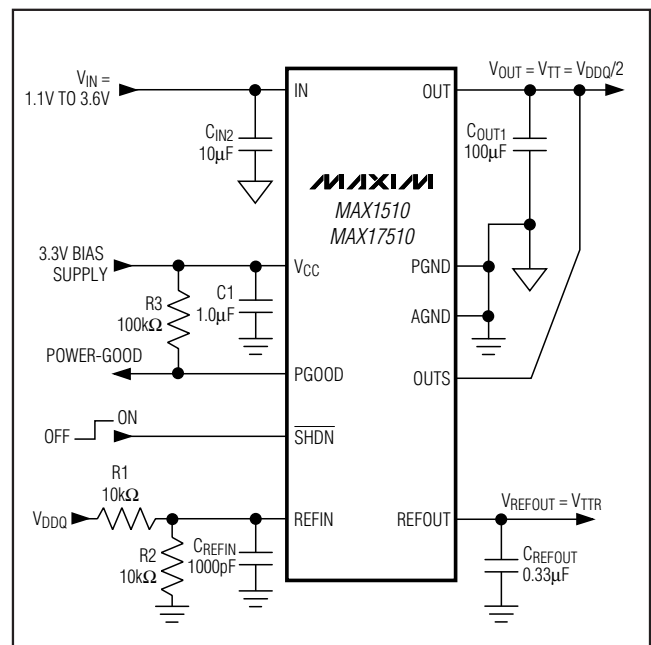

Figure 1. Standard Application Circuit
( $V_{IN} = 1.8V$ ,  $V_{CC} = 3.3V$ ,  $V_{REFIN} = V_{OUTS} = 1.25V$ ,  $\overline{SHDN} = V_{CC}$ , circuit of Figure 1,  $T_J = T_A = -40^\circ C$  to  $+85^\circ C$  for MAX1510ETB,  $T_J = T_A = -40^\circ C$  to  $+125^\circ C$  for MAX17510ATB, unless otherwise noted. Typical values are at  $T_A = +25^\circ C$ .) (Note 1)
(Circuit of Figure 1.  $T_A = +25^\circ\text{C}$ , unless otherwise noted.)
The MAX1510/MAX17510 are low-voltage, low-dropout DDR termination linear regulators with an external bias supply input and a buffered reference output (see Figures 1 and 2). VCC is powered by a 2.7V to 3.6V supply that is commonly available in laptop and desktop computers. The 3.3V bias supply drives the gate of the internal pass transistor, while a lower voltage input at the drain of the transistor (IN) is regulated to provide VOUT. By using separate bias and power inputs, the MAX1510/MAX17510 can drive an n-channel high-side MOSFET and use a lower input voltage to provide better efficiency.
The MAX1510/MAX17510 regulate OUTS to the voltage set at REFIN, making the MAX1510/MAX17510 ideal for memory applications where the termination supply must track the supply voltage. Typically, REFIN is set by an external resistive voltage-divider connected to the memory supply (VDDQ) as shown in Figure 1.